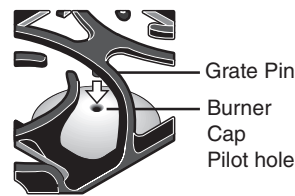

Figure 2
5. Unpack Burner Grates. **NOTE:** Do not force End Burner Grates down on cooktop. Be careful to line up the 2 Grate Pins located on each of the 2 End Burner Grates into the Pilot holes located on top of the Burner Caps (See Figure 2).